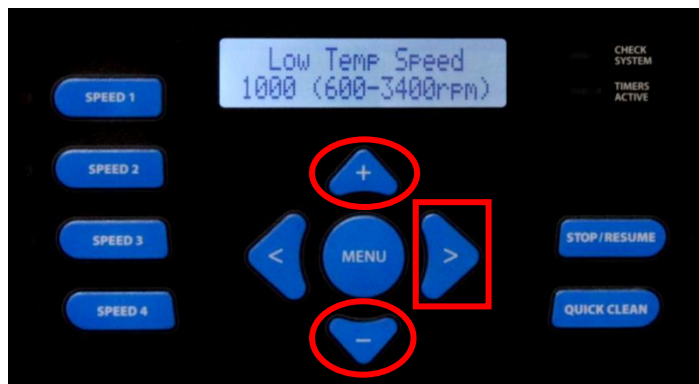

Fig 47
16. If the Low Temp Operation is enabled you will be asked to set the Low Temp Speed (fig 47). The default is 1000 rpm (29%). This speed can be adjusted between 600 rpm (17%) and 3450 rpm (100%) by pressing the  &  buttons. Press the  button to continue.